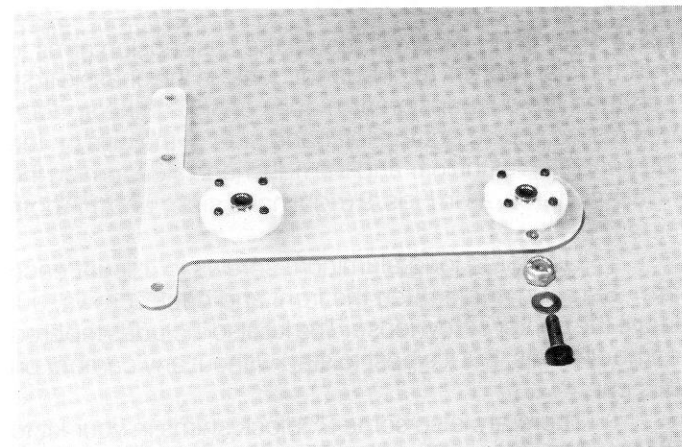

Fig. 16
□ **Fig. 16**— Now assemble and mount the second, rear socket assembly like you did the first one. Except in this socket, the ball **MUST BE VERY FREE, BUT NOT LOOSE**. Now see if the ball is **PERFECTLY FREE**. If it is, good, leave it as is. If it's not, there are two things you can do. You can unscrew all four screws one half turn. But the best thing to do is to take the ball back out and polish it. You can do this by placing a 4/40 screw in the ball and securing it with a nut and turning the screw in a drill press, polishing the ball with crocus cloth or #660 wet or dry sandpaper. Re-install the ball and make sure it's **PERFECTLY FREE**, but **NOT LOOSE**.